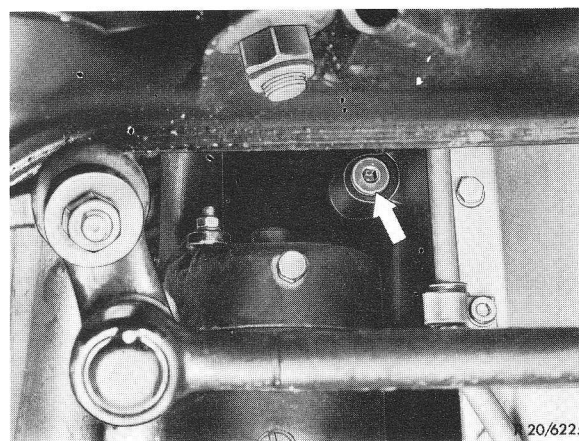

Fig. 1
- 1 Drain cooling water from radiator and cylinder crankcase (drain plugs on crankcase – Fig. 1).